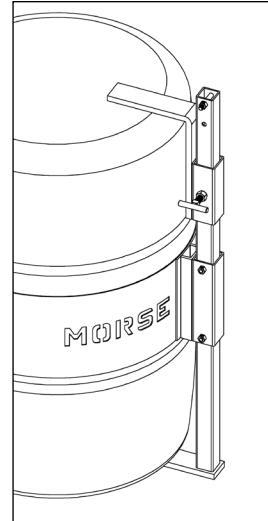

Figure 2.1
- The **Bracket Assembly** (Part # 4556-P) is **required** to handle a plastic or fiber drum without a top rim (see figure 2.1). You can use the Bracket Assembly with a 55-gallon (210 liter) plastic, steel or fiber drum. The brace at top and bottom of the drum prevent it from slipping lengthways through the drum holder. It adjusts for a drum 31" to 39" (79 to 99 cm) tall.